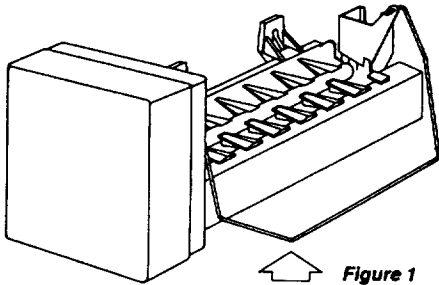

Figure 1
**NOTE:** To shut off icemaker, lift up icemaker stop arm to the up or off position (see Figure 1 below).